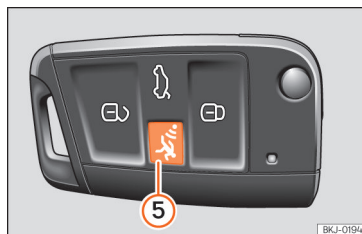

Fig. 132 Vehicle key with alarm button.
Only press alarm button in the event of an emergency » **Fig. 132 ⑤!** When the alarm button is pressed, the vehicle horn is heard and the turn signals are switched on for a short time. When the alarm button is pressed again, the alarm is switched off.